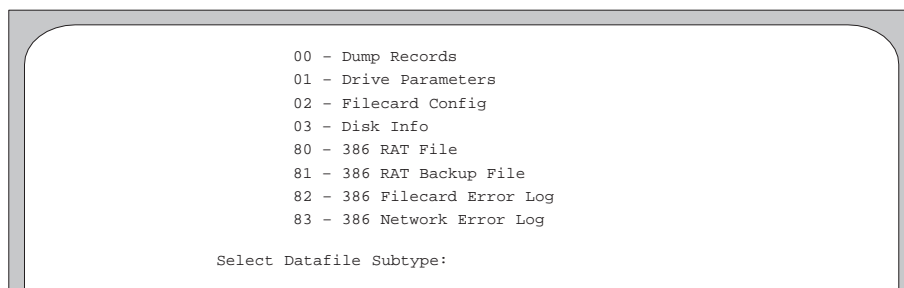

Figure A-26. Example of Screen Showing Subtypes for Datafile Type 3.
3. At the **Select Datafile Type:** prompt, enter the number of the datafile type from which the record is to be read. The subtypes of the chosen type are displayed on the screen, as shown in Figure A-26 for a type 3 datafile type.
3. At the *Select Datafile Type:* prompt, enter the number of the type from which to obtain the physical address. The subtypes of the chosen type are displayed (Figure A-26).